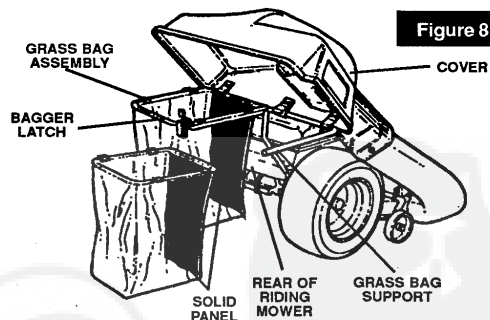

Figure 8
3. Unlock latch strap from latch rod. (figure 8).